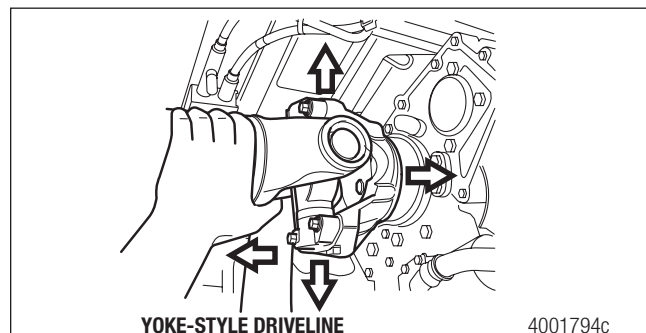
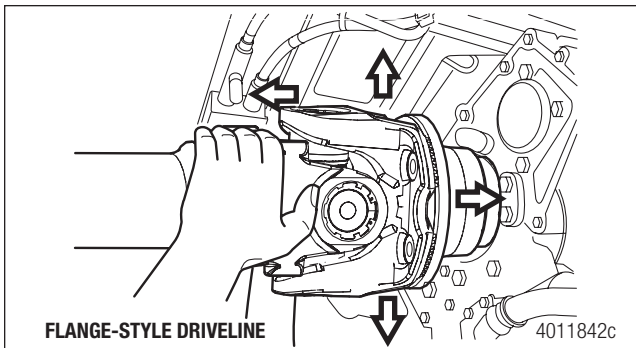

Figure 4.4
Figure 4.5
2. Try to move the yoke or flange UP-AND-DOWN and SIDE-TO-SIDE by applying at least 50 pounds (22.7 kg) of force to the driveline near the universal joints. Figure 4.4 and Figure 4.5.
Every 25,000 miles (40,000 km)	If you observe any of the following conditions, remove and replace components as needed. <ol style="list-style-type: none"> 1. Inspect all universal joints for grease purging. <p>If a universal joint shows normal grease purging: Do not replace the universal joint. Refer to TP-9980.</p> 2. Check for excessive looseness across the ends of the universal joint bearing cup assemblies and trunnions. <ul style="list-style-type: none"> • Grip driveline near the INBOARD yoke with both hands. • Try to move the yoke VERTICALLY and HORIZONTALLY. Movement in the universal joint relative to the INBOARD or OUTBOARD yokes must not exceed 0.006-inch (0.152 mm). Figure 4.4 and Figure 4.5. 3. Inspect the slip yoke spline seal for grease leakage or seal damage. 4. Inspect for missing balance weights, damaged tubing, or a missing welch plug at the slip yoke.